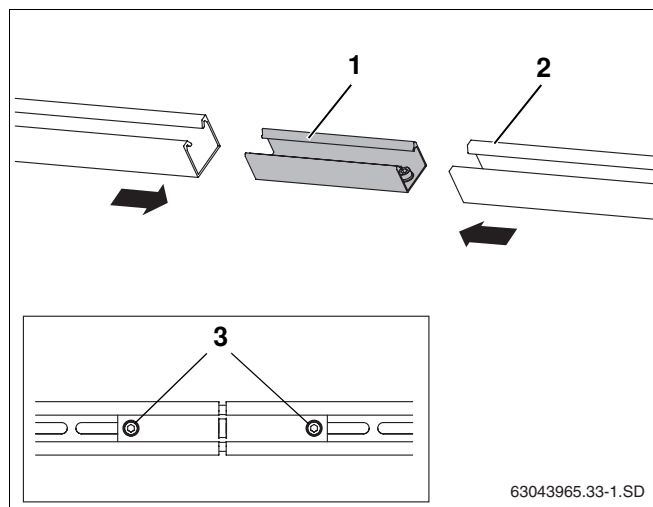

Fig. 31 Connecting profile rails
- Push plug connector (Fig. 31, **Item 1**) as far as it will go into both profile rails (Fig. 31, **Item 2**).
- To lock, tighten both fitted M10 threaded studs (Fig. 31, **Item 3**) in the plug connector using a size 5 spanner.